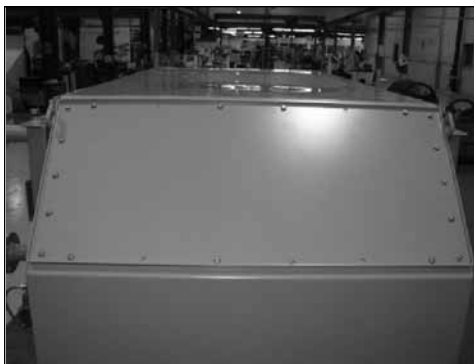

Figure 6-90
11. Replace the angled covers and gaskets on top of the TEWAC enclosure. (Figure 6-90)